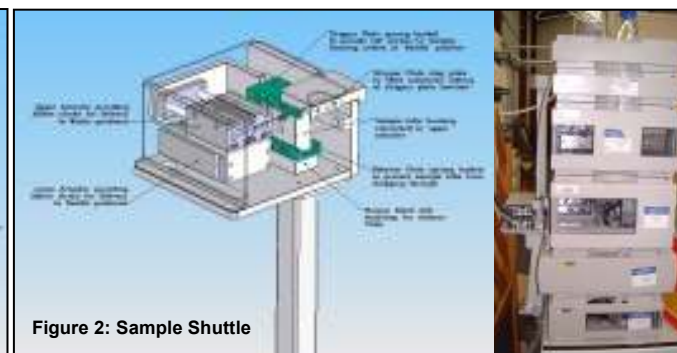

Figure 2: Sample Shuttle
- A shuttle device (Figure 2) transfers the sample to a position accessible to the injection head